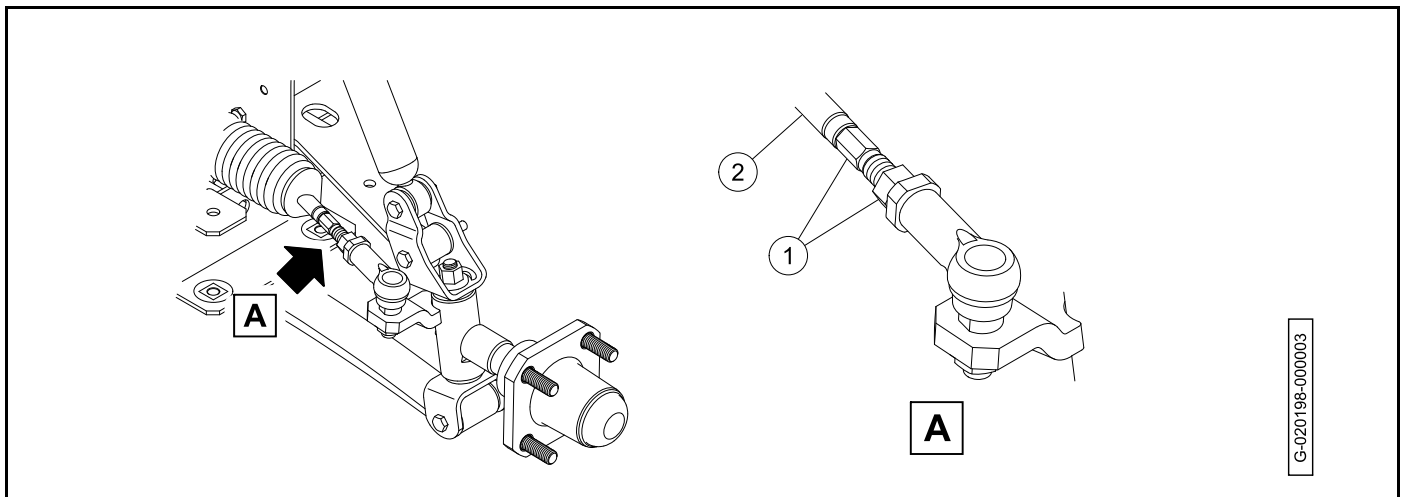

Figure 7-12
- 9.1. Loosen the jam nuts (1) on both ends of each drag link (2) (**Figure 7-12**).